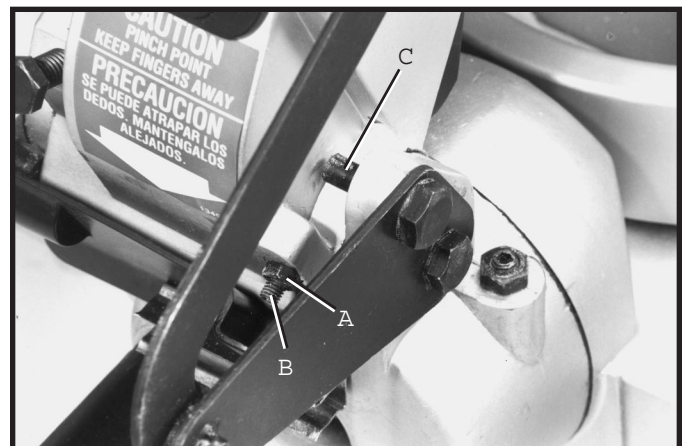

Fig. 38
2. The downward travel of the saw blade can be limited to prevent the saw blade from contacting any metal surfaces of the machine. This adjustment is made by loosening locknut (A) Fig. 38, and turning adjusting screw (B) in or out until other end of screw (B) contacts stop (C) at the full downward travel of the saw blade.
3. When making this adjustment, MAKE SURE THE MACHINE IS DISCONNECTED FROM THE POWER SOURCE and lower the blade as far as possible. Rotate the blade by hand to make certain the teeth do not contact any metal surfaces and adjust if necessary. After adjustment is completed, tighten locknut (A).